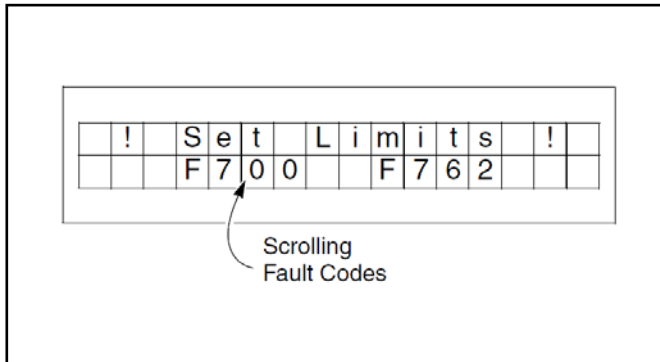

Figure 54
2. Apply power to the control system. During the system initialization, the display will indicate that the door open and close limits must be set by displaying the associated fault codes (F700 and F762 will crawl across the display). (See Figure 54.)